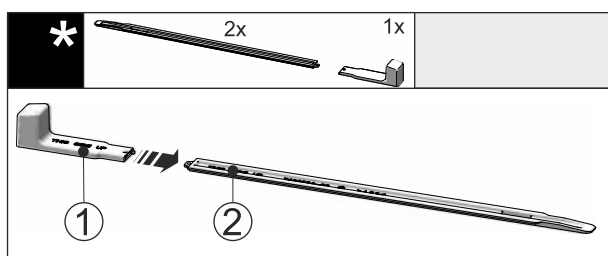

Fig. 42
- Attach the installation handle Fig. 42 (1) to the levelling rail Fig. 42 (2).